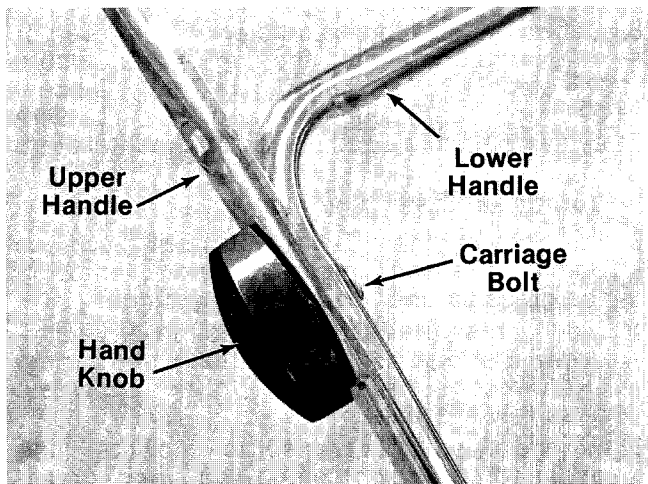

FIGURE 2.
3. Assemble upper handle to lower handle. ← Secure with two carriage bolts and hand knobs as shown in figure 2. The knobs may be assembled either to the inside or the outside of the handle.